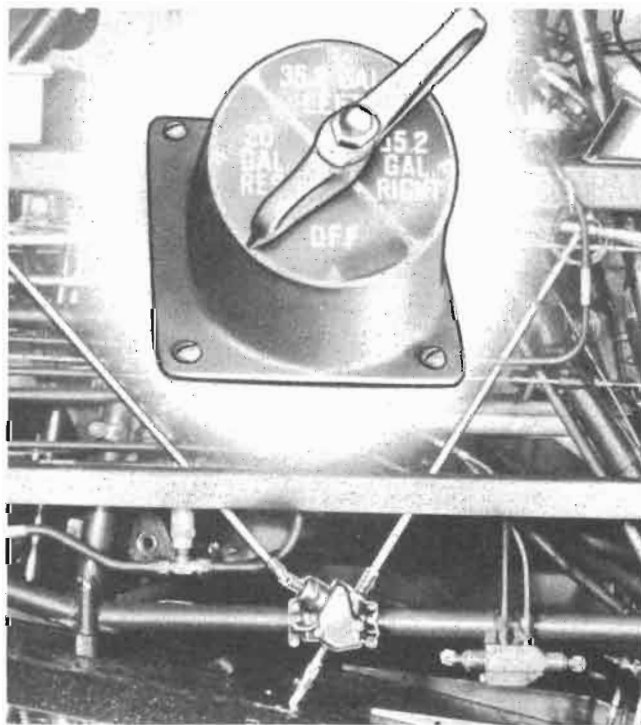

Figure 169 — Fuel Selector Valve
g. FUEL SELECTOR VALVE.—(See figure 169.)—The fuel selector valve is a cork-seated cock-type G-2A